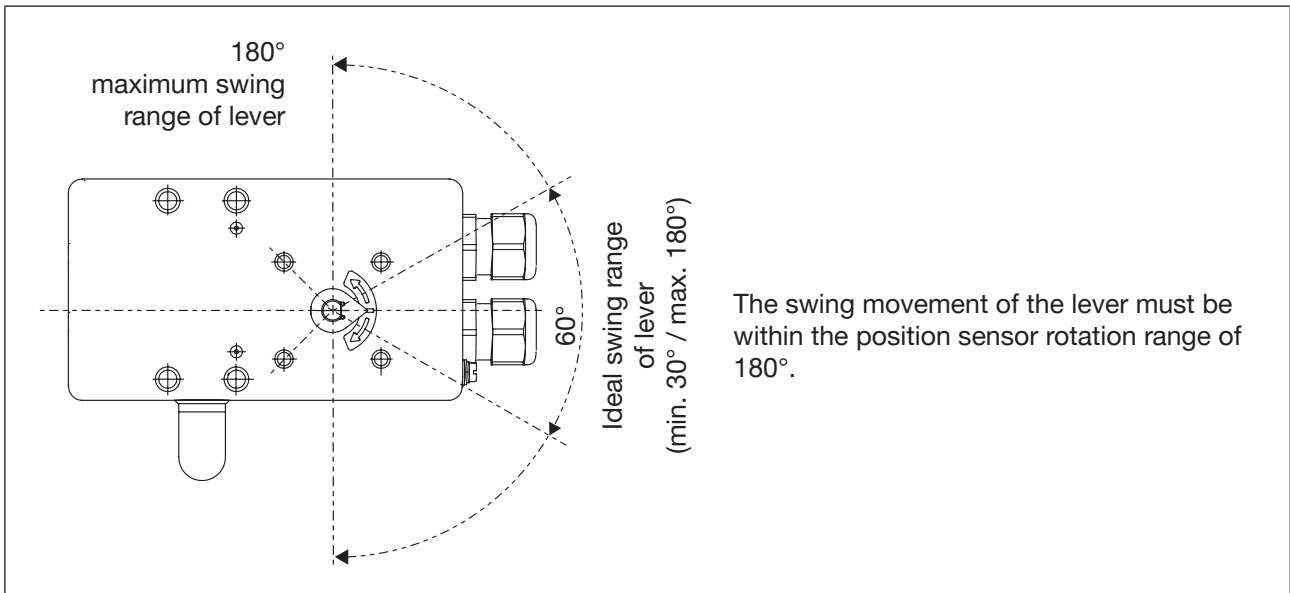

Figure 11: Swing range of the lever
**!** The gap between the driver pin and the shaft should be the same as the actuator stroke. As a result, the lever has a swing range of 60° (see “Figure 11: Swing range of the lever”).